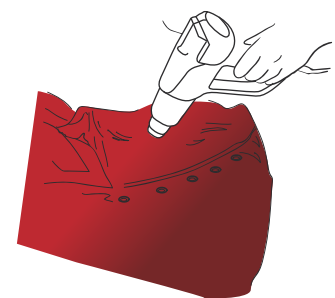

Figure 20
- › Then heat each rivet again to 80 °C - 90 °C (176 °F - 194 °F).(FIG. 20)